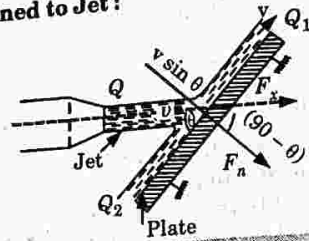

Fig. 4.3.2. Jet striking stationary inclined plate.
- If plate is smooth and there is no loss of energy, then jet will move over the plate with a velocity (v) as shown in Fig. 4.3.2.